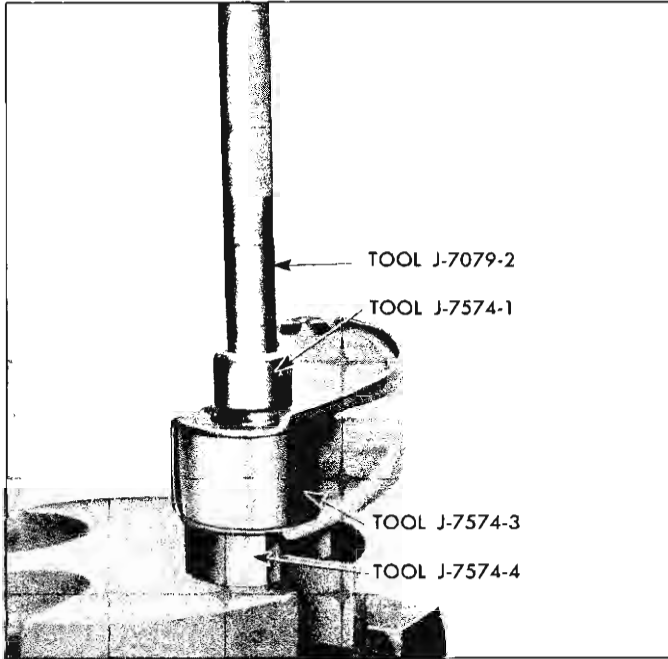

Fig. 26—Removing Upper Control Arm Bushings (Rear Bushing Shown)
5. With control arm bushing centered over Tool J-7574-4 and Tool J-7574-3 in place and with arm resting horizontally by supporting at opposite end, press or tap bushing from arm using Tool J-7574-1 and Tool J-7079-2 (Driver Handle) (fig. 26).